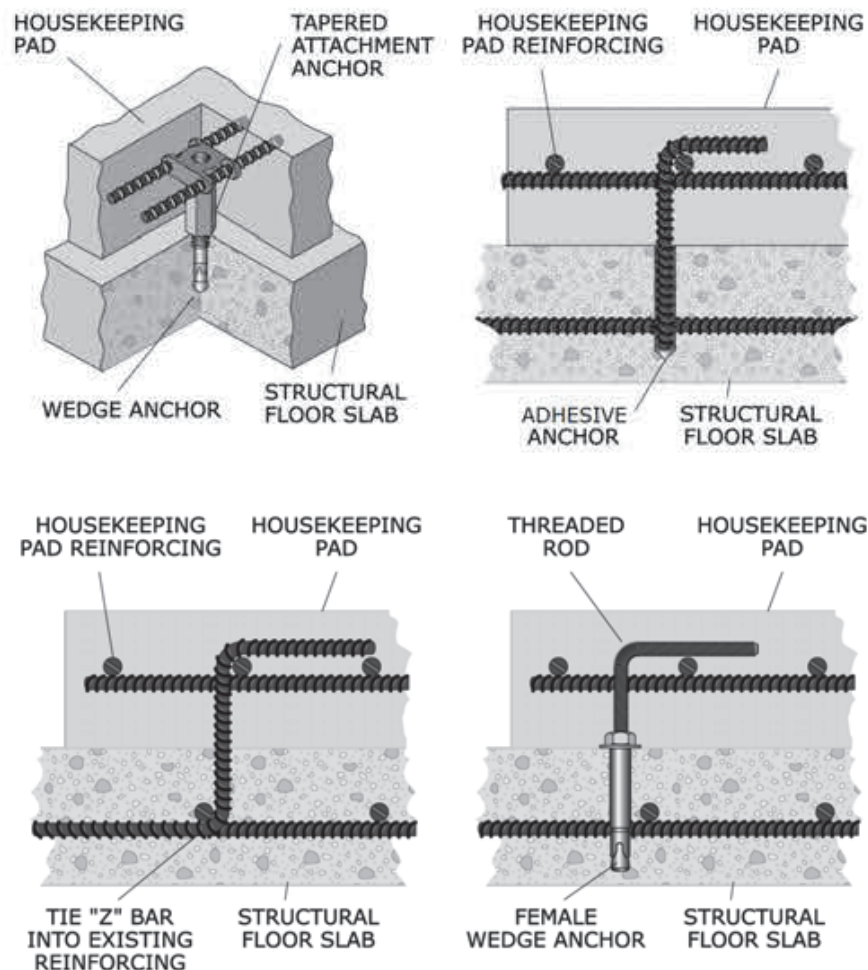

Figure 162: Doweling to the building floor.
Attachment details for dowels are shown in Figure 162 (below).
- Coordinate the location of embedded "Z" bar shown in Figure 162 with the concrete subcontractor.